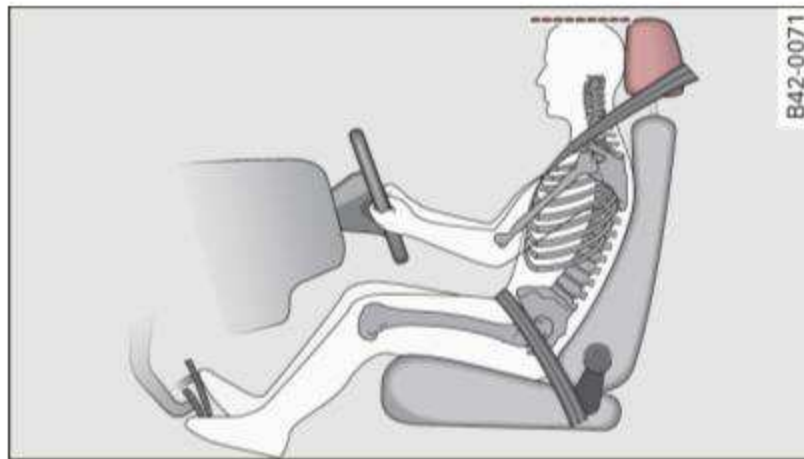

Fig. 85 Correct head restraint position for driver
- Adjust the head restraint so that the upper edge is as even with the top of your head as possible but no lower than eye level and so that it is as close to the back of your head as possible ⇒ fig. 85.